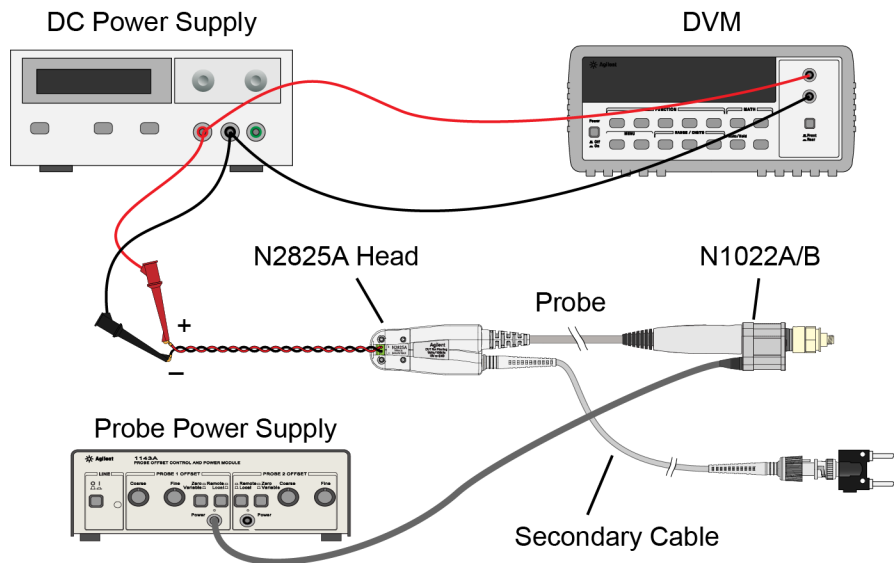

Figure 53 Test Setup for Measuring V_{in}
- 1 Snap an N2825A head onto the N2820/1A probe and connect the test equipment as shown in Figure 53. Be sure to connect the positive side of the DC supply to the red lead on the N2825A head.
- 8 Connect the multimeter on the DC power supply as shown in Figure 53 on page 105.